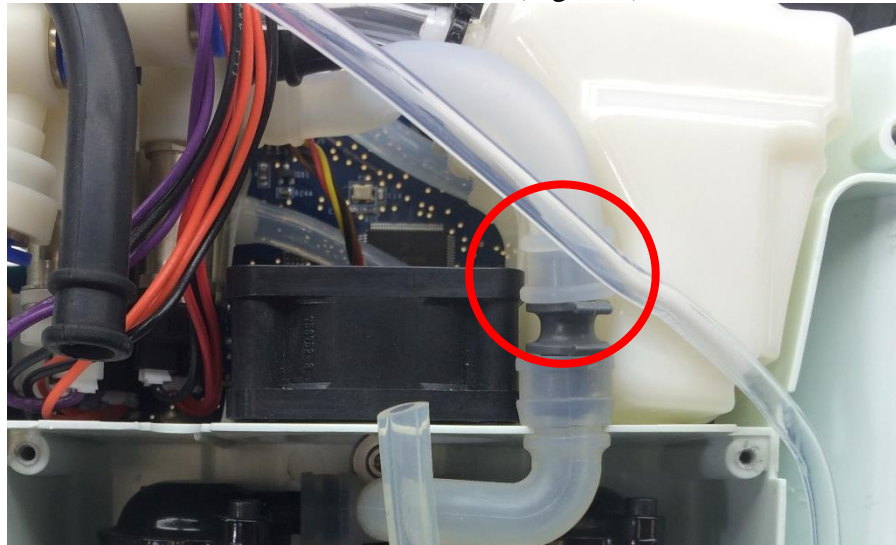

Figure 9: Tube Bracket Removal
5. Detach the Inlet tube from the inlet union barb (Figure 9).
3. Attach the Inlet tube to the inlet union barb (Figure 9) and remove the Inlet tube from the assembly.